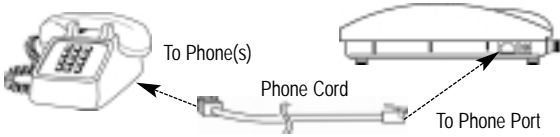

Figure 7- Connect the SX4e to a telephone.
- 2) Connect the other end of the cord to the telephone port on the side of your SX4e - **see Figure 7.**